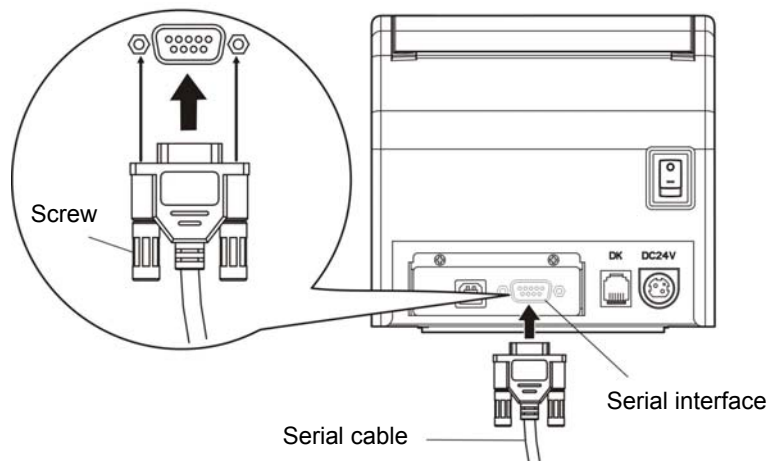

Figure 2-5 Connecting the serial cable
1. Make sure the computer and the printer are both turned off, plug the serial cable to the serial interface of the printer. Tighten the screws on both sides and make the cable fixed. As shown in figure 2-5.